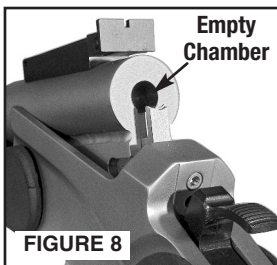
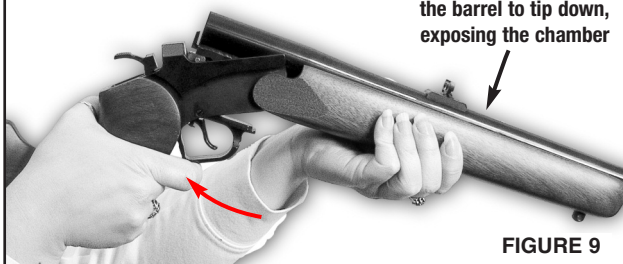

FIGURE 8
FIGURE 9
- With your finger away from the trigger and with the hammer in the “AT REST” position (FIGURE 8), open the action by pulling up and back on the trigger guard spur (FIGURE 9).